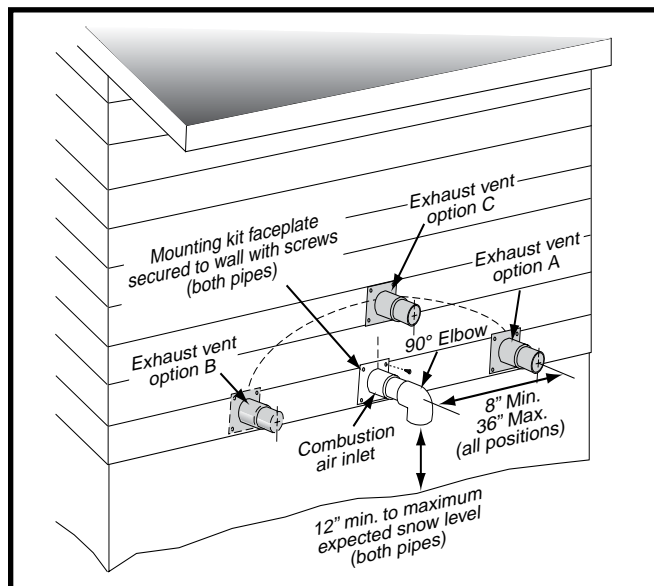

Figure 7. Inlet & Exhaust Pipe Clearances
- If a Direct Vent (2-pipe) system is used, the combustion air intake and the vent exhaust must be located in the same atmospheric pressure zone. This means both pipes must exit the building through the same portion of exterior wall or roof as shown in Figures 7 - 10 and Figure 29 (page 38).
Vent and combustion air intake terminations shall be installed as depicted in Figures 7 & 8 (page 12) and in accordance with these instructions:
- When the vent pipe must exit an exterior wall close to the grade or expected snow level where it is not possible to obtain clearances shown in Figure 7, a riser may